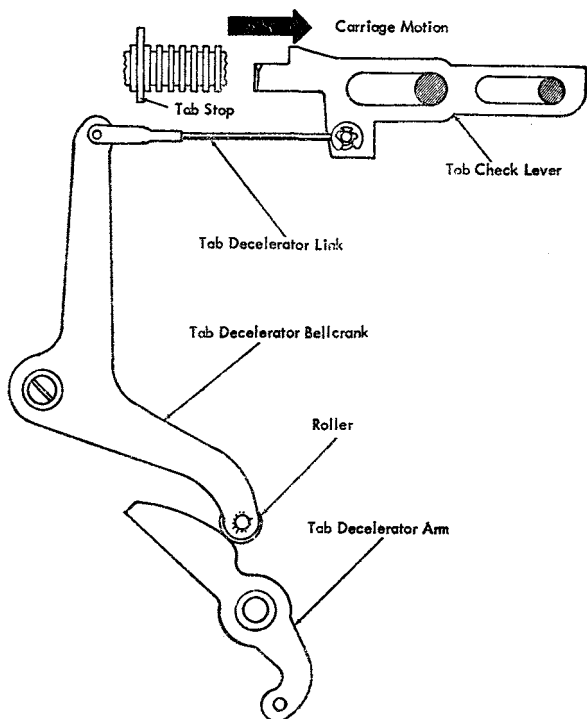

Figure 19. Tabulation Deceleration
and operate the tab decelerator-arm (Figure 19). This action tightens the tab spring-clutch and gives an increased rotation to the already operating centrifugal-governor. This increased rotation slows the carriage during the last portion of a tabulation and absorbs the shock.
11. DECELERATOR LINK. Adjust the length of this link to obtain the maximum cushioning of the carriage without interfering with tabulation (Figure 19).